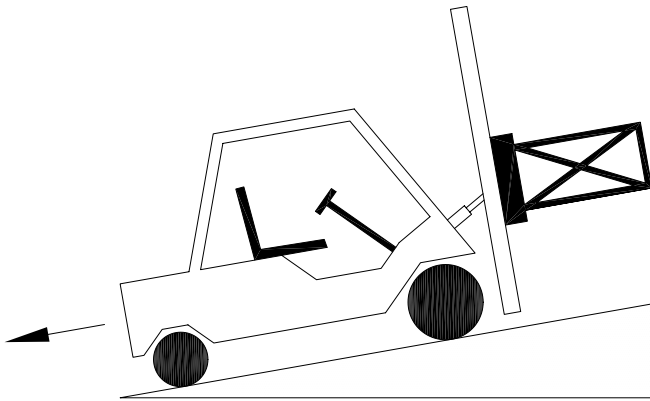

Figure 2-4
6. **Always** back down ramps or inclines. Driving forward down a ramp or incline with a clamped load will lessen the stability of the truck. (Figure 2-4)